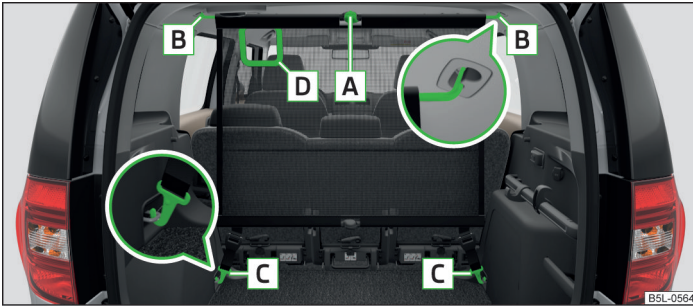

Fig. 83 Using the net partition behind the rear seats
- First of all insert the cross rod into the mount **B** » Fig. 83 on one side and push it forward. In the same way, insert the cross rod into the mount **B** on the other side of the vehicle.
- Undo the belts on both sides and unhook the carabines **C** » Fig. 83.
- Press the red button of the joint **A** » Fig. 83- the joint becomes loose.
The opening **D** » Fig. 83 in the net partition is designed to feed through the three-point seat belt » page 167.